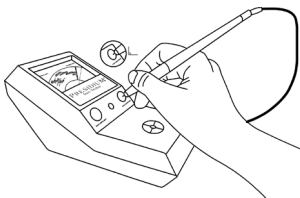

Fig. 1.5
- Press the probe tip onto the diamond test disc located on the right of the indicator lamp (**Fig. 1.5**). Apply sufficient pressure to retract the protruding tip completely into the probe pen. Once this has been completed, the needle should rise and reach its highest point well within the green band of the meter display, within two to three seconds